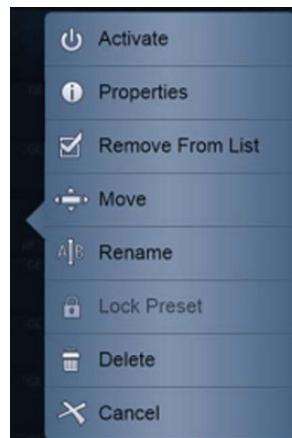

Figure 8-3. Preset config menu
A menu appears (Figure 8-3).
The **Preset config** menu appears (Figure 8-3).
- The Preset Config menu appears (Figure 8-3).